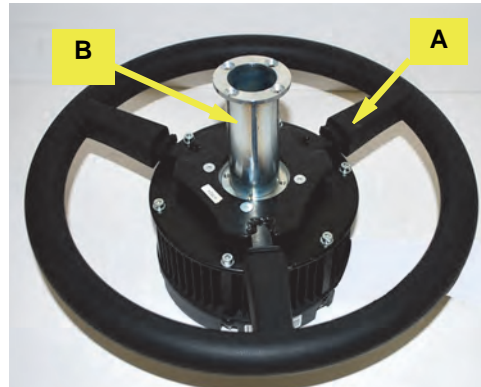

Figure 1a: Inserting shaft adapter into steering wheel
- a. Place the VSi steering wheel **A** on a clean surface with the wheel facing up. Insert shaft adapter **B** into steering wheel **A** (Figure 1a).